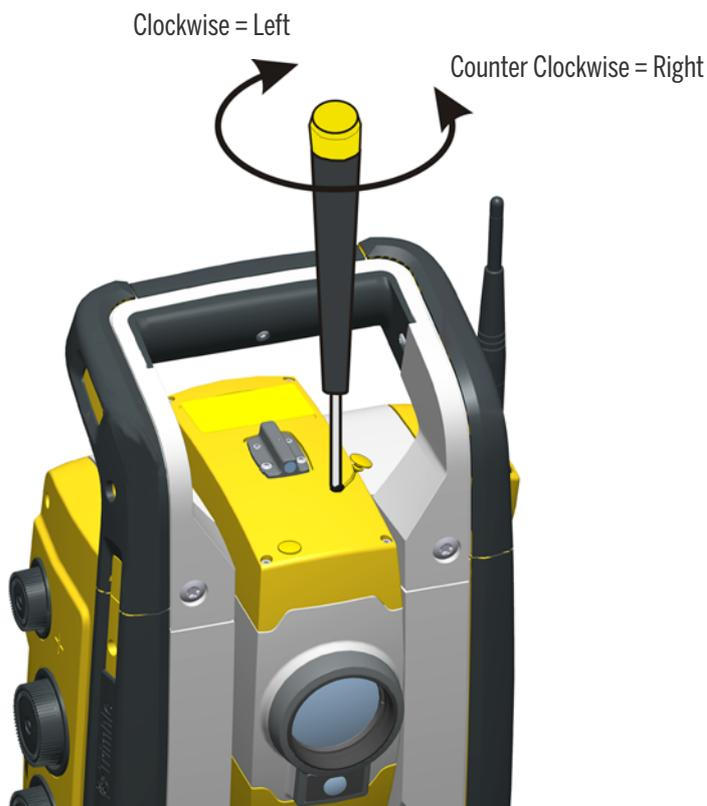

Figure 3.16 Horizontal position adjustment
- To correct the horizontal position of the laser spot, insert the allen key into the horizontal adjustment port and turn it as shown in Figure 3.16.